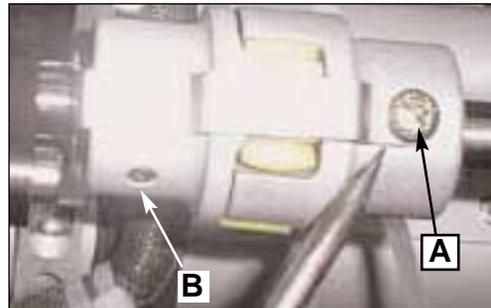

FIG. 319:
- (1) Move the seat in full upright position. Keep this position until the completion of all operations.
- (2) Disconnect actuator cable. Remove screw (A); recover it. Loosen screw set (B). (see fig. 319)